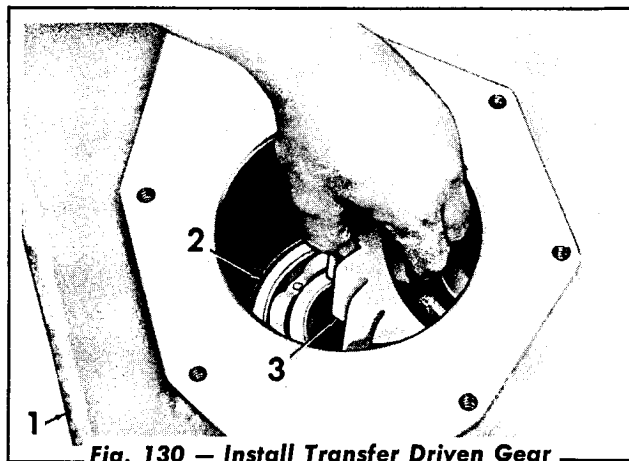

Fig. 130 — Install Transfer Driven Gear
1. Position the transfer gear housing (Fig. 130) on the work table with the rear surface down and install the bearing. Install the transfer driven gear into the housing with the long hub toward the rear of the housing.